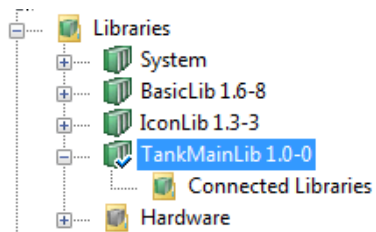

Figure 50. Library with sub folders
2. To the library (see Figure 50), add the following: